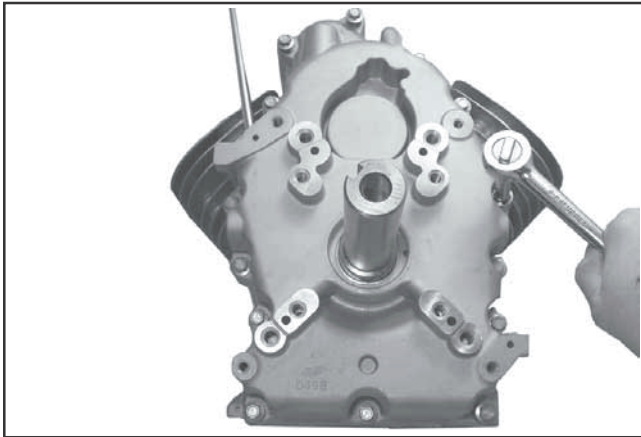

Figure 8-52. Removing Closure Plate Screws.
1. Remove the fourteen hex flange screws securing the closure plate to the crankcase. See Figure 8-52.